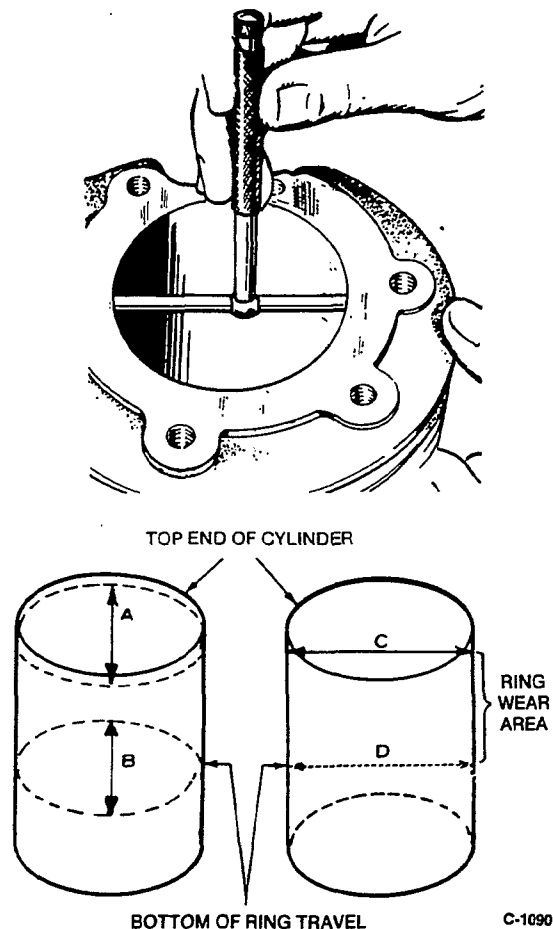

FIGURE 9-29. METHODS OF MEASURING THE DIAMETER OF A CYLINDER BORE
2. Record measurements taken at top and bottom of piston travel as follows (see Figure 9-29).